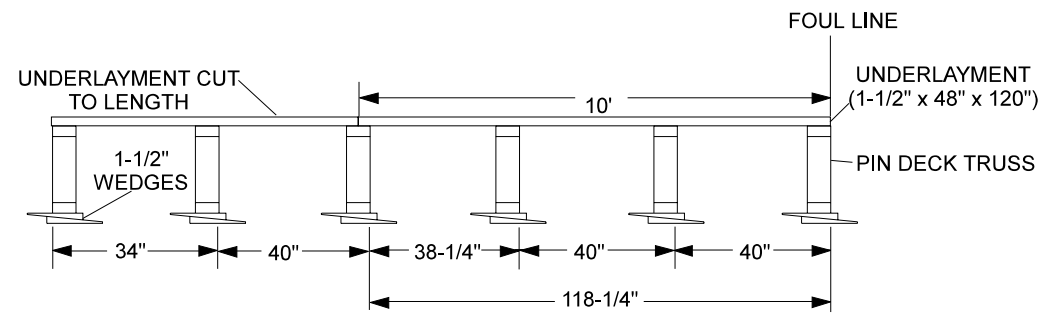

FIGURE 3.
1. Install the 6 pin deck trusses starting at the foul line with the top surface of each truss flush with the bottom surface of the underlayment installed on the lanes adjacent to it. Reference *Figure 3*.